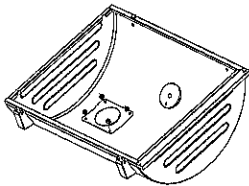

Fig. 20A
Refer to Fig. 20A and 20B Insert the Smoke Stack Assembly from **INSIDE** the Lid and fasten it to the Lid with (4) M6x15 bolts and KEPS nuts. **NOTE:** the bolts are inserted from the **OUTSIDE** of the Lid.